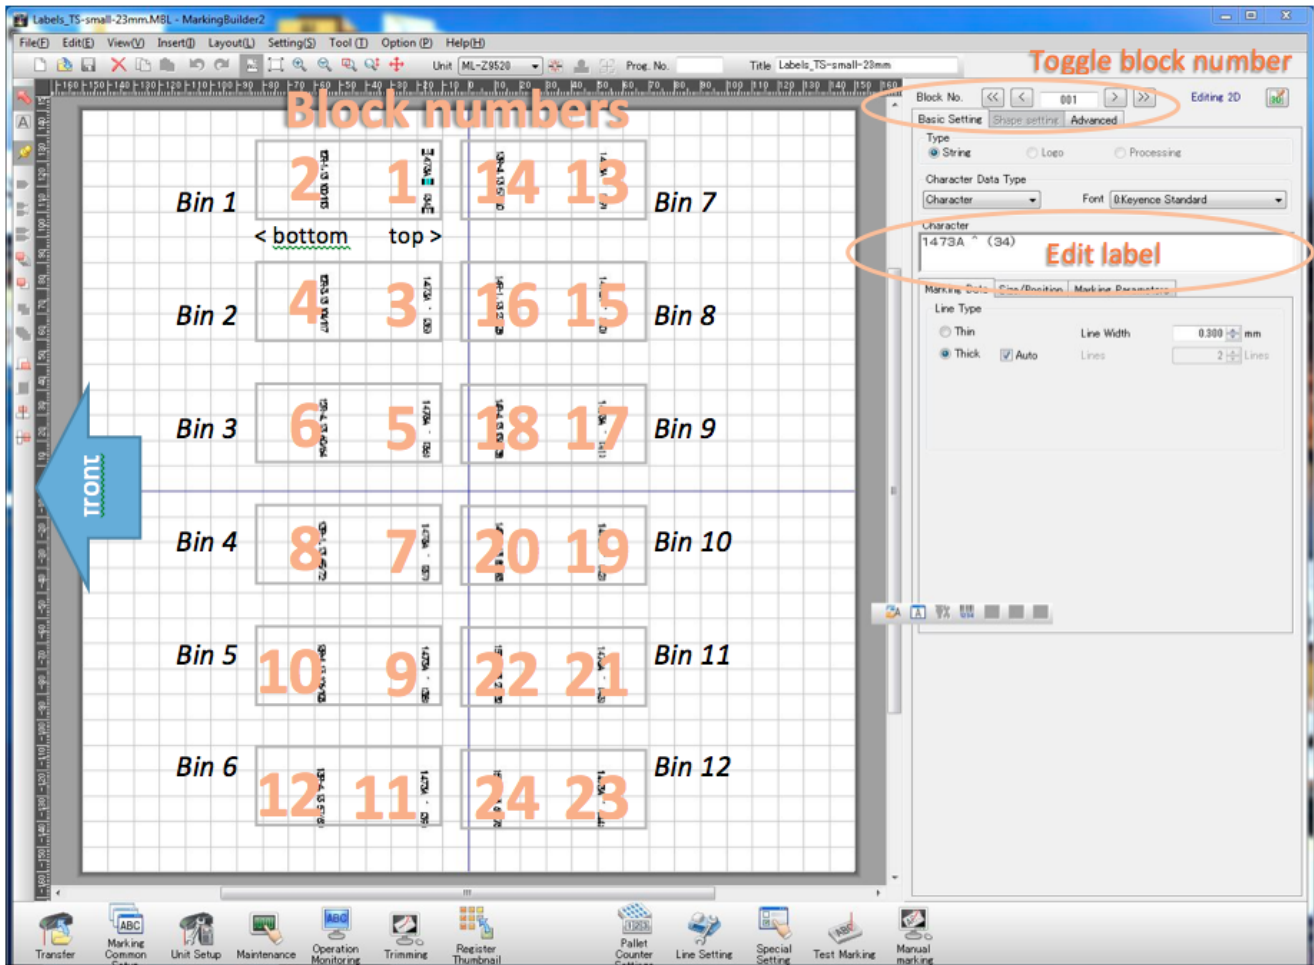

Figure 1: MarkingBuilder2 window of the template for labels of small thin sections
3. Edit the labels. Each label is referred to as a "block" and each of the 12 thin section/bin has 2 blocks: upper and lower. The upper block has the site number, hole, (up arrow) and thin section number; the lower block has the core number and type, section number, piece number if any, and the offset of the billet from the parent sample. The 24 blocks are consecutively numbered towards the right, starting from the front-left bin (Figure 1).